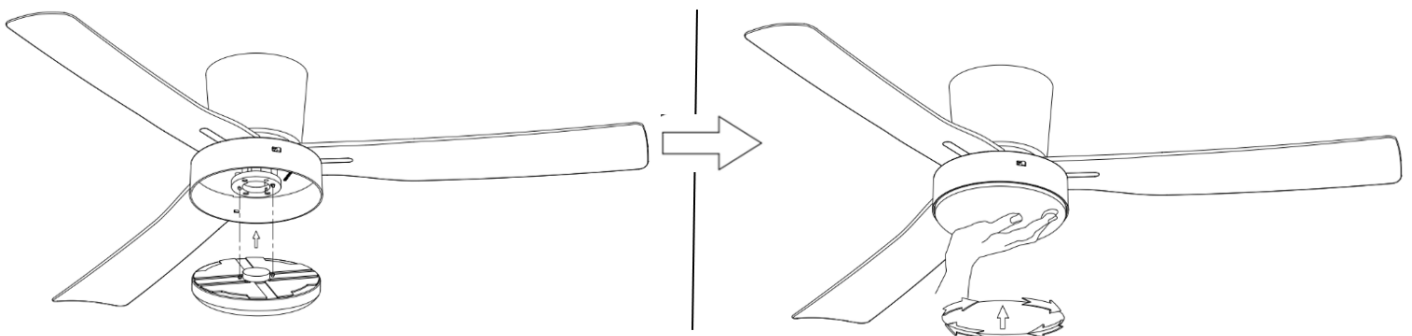

Fig. 11
- Install the GX53 lamp on the fan assembly, then secure it by turning clockwise. (Fig.11)